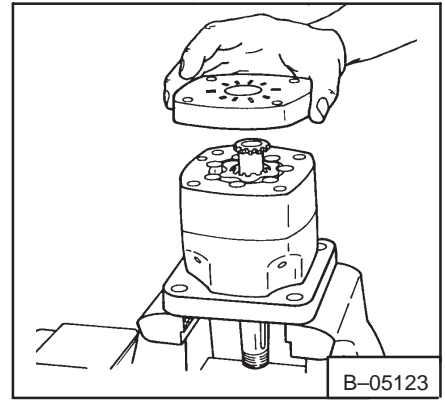

Fig. 3-44 Removing The Valve Plate
13. Remove the valve plate (Fig. 3-44).